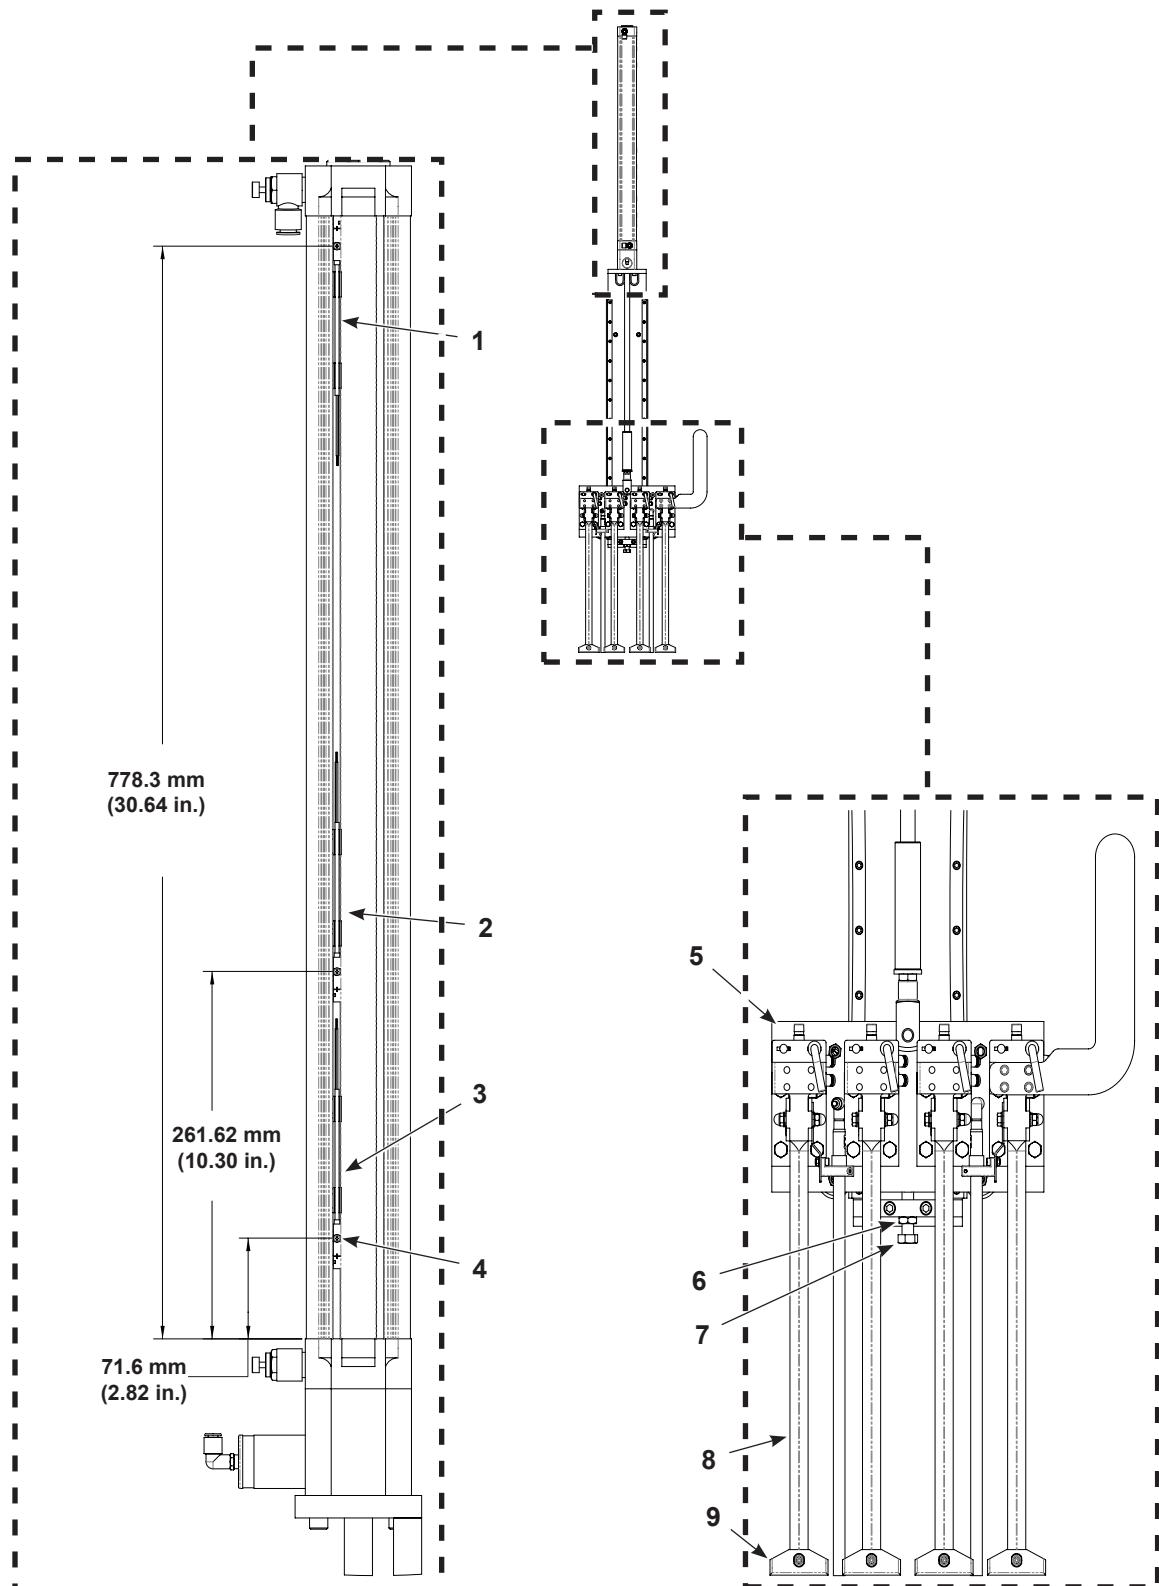

Figure 7-1 Purge Position Sensor and Stop Bolt Realignment
See Figure 7-1.
4. Turn the stop bolt counterclockwise until the head is firmly against the bottom of the linear slide (5). When the stop bolt is firmly in place, lock it into position using the jam nut (6).
- NOTE:** Figure 7-1 shows the typical locations of the three sensors on the cylinder rod. Use these dimensions only as a starting point for aligning the sensors.
5. Loosen the sensor bracket and slide it up and down the cylinder rod until the LED (4) illuminates. With the LED illuminated, tighten the sensor bracket.